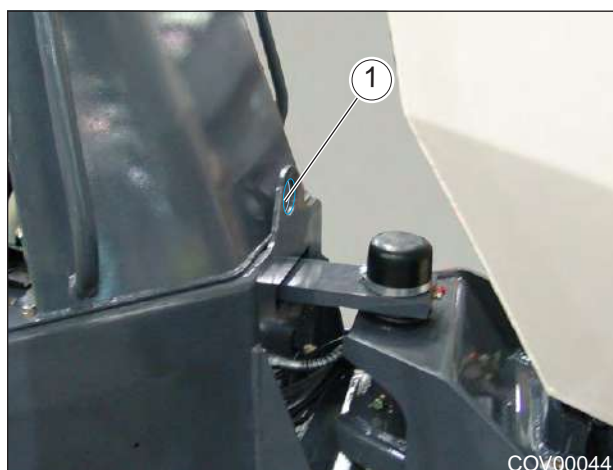

Figure 5.1 - Lifting Point
Refer to Figure 5.1. A single lifting point (1) is provided for lifting the machine. Using this point will give a safe stable lift. Other methods of lifting are not recommended.